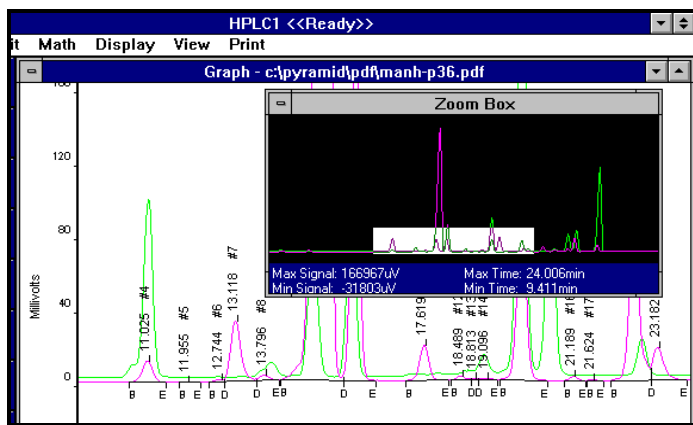

Figure 7.28 Zoom Box Enabled in Graph Window
- **Zoom Box:** Places a special "zoom locator box" on the current Graph window which indicates the current view in relation to the entire chromatogram. Checking the Zoom Box command in the submenu activates the Zoom Box (Figure 7.28), and unchecking it defeats the Zoom Box display. Once displayed, the Zoom Box can be resized and repositioned like any other window. Inside the bottom portion of the Zoom Box are numerical indicators of the current time and signal coordinates range covered by the current view in the Graph window. One Zoom Box can be enabled for each Graph window displayed.